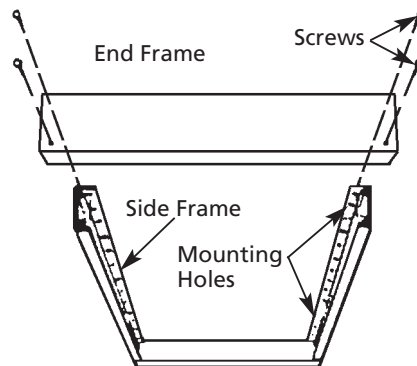

Figure 5
1. Assemble the end frames to the side frames using the screws provided (see Figure 5) before installing on the ceiling.